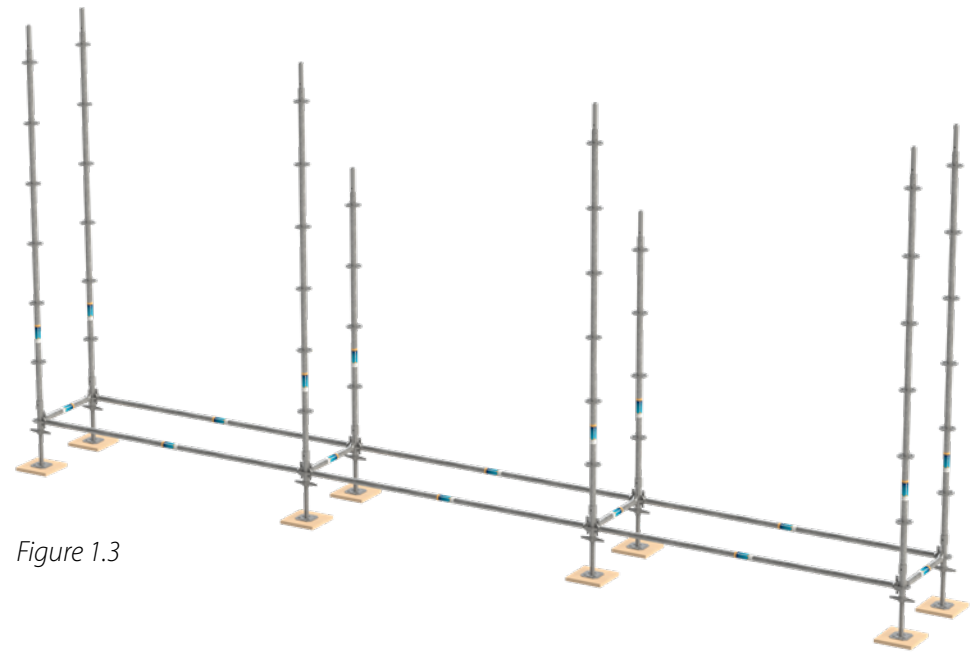

Figure 1.3
- 1.2.5 Insert the standards into the threaded base jacks. Use 3 metre standards on the outside and 2 metre standards on the inside of the scaffold for ease of assembly/disassembly (see figure 1.3).